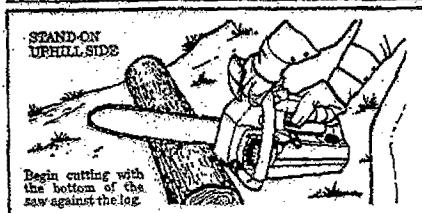

Figure 17
- b. Begin cutting with the saw frame against the log. Figure 17.